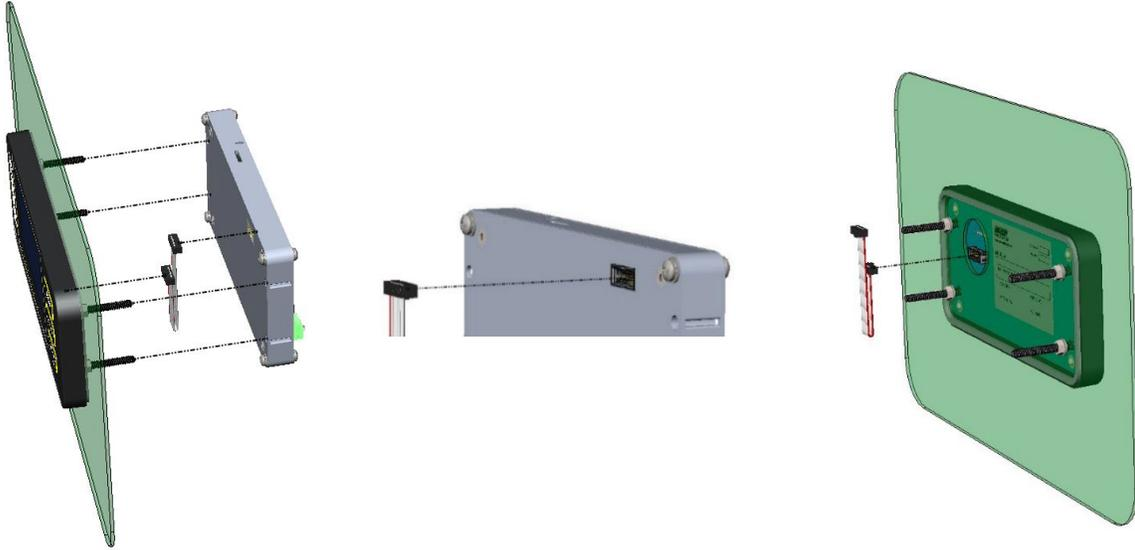

Figure 3-3. Installing the Display Cable
7. Install the display cable to the display, as shown in Figure 3-3.